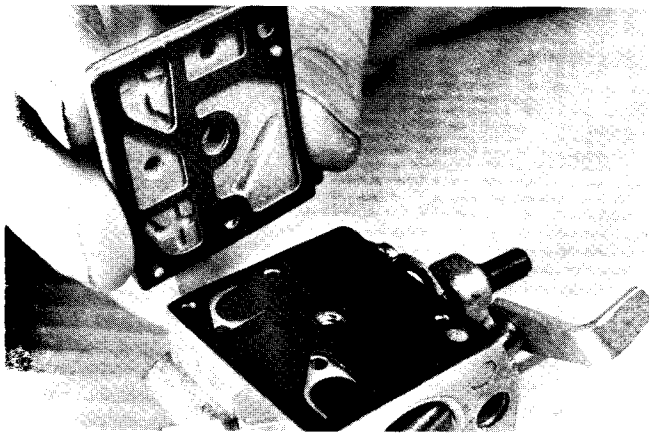

Fig. 51 — Removing/Installing Fuel Pump Cover and Gasket
1. Remove fuel pump cover, gasket and diaphragm, Fig. 51.
7. Install fuel pump diaphragm, gasket and cover, Fig. 51.